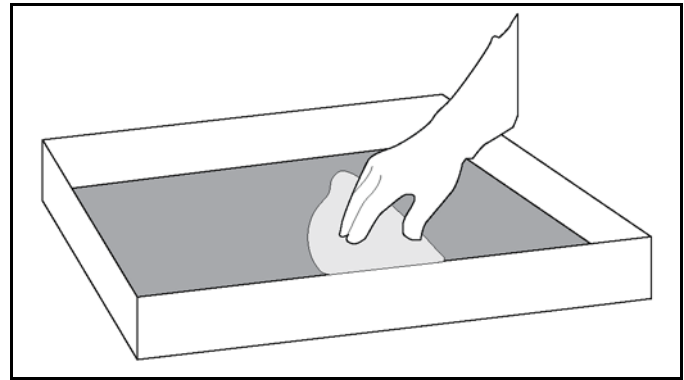

Figure-107
13. Place all release sheets flat on the release sheet storage tray, clean side down. Do not fold, crease, or place them on sharp objects. Do not clean the release sheets in the three-compartment sink. See Figure-107.